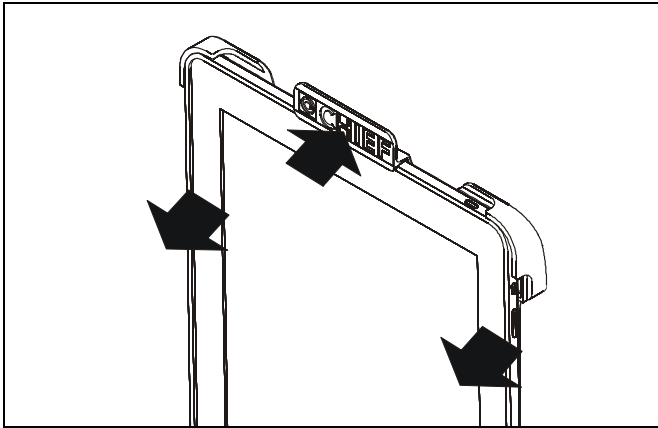

Figure 9
- To release the iPad® from the mount, firmly hold the iPad® while pressing back on the tab to release and remove the iPad®. (See Figure 9)